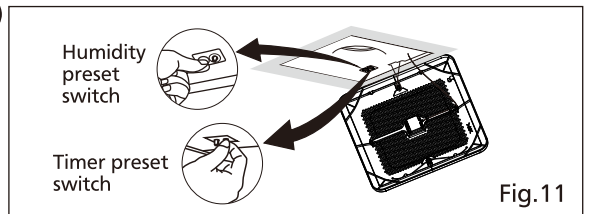

Fig.11
14. Adjust humidity preset switch and timer preset switch.(Fig.11)(More detail about switch adjust method see page 9)